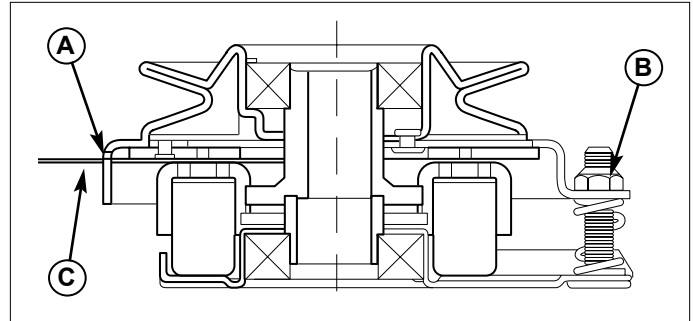

Figure 34. Adjust PTO Clutch
3. Insert a .010"-.015" (2.5-4mm) feeler gauge (C) through each window, positioning the gauge between the rotor face and the armature face as shown in Figure 34.